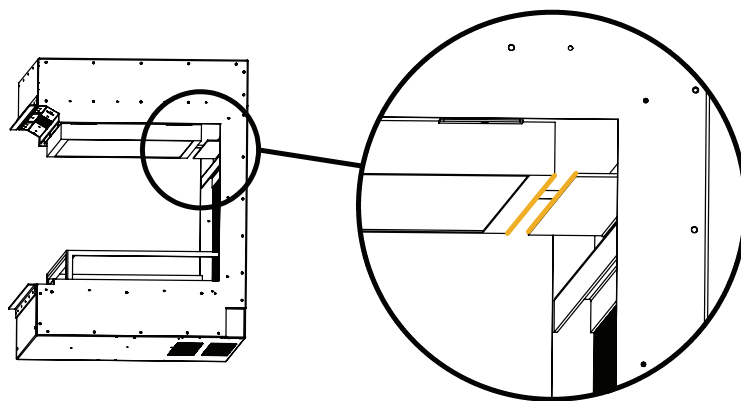

Figure.9.1 | Opening where the effect should be placed
- The effect glass should be placed between in the opening between the orange lines. See Figure 9.1